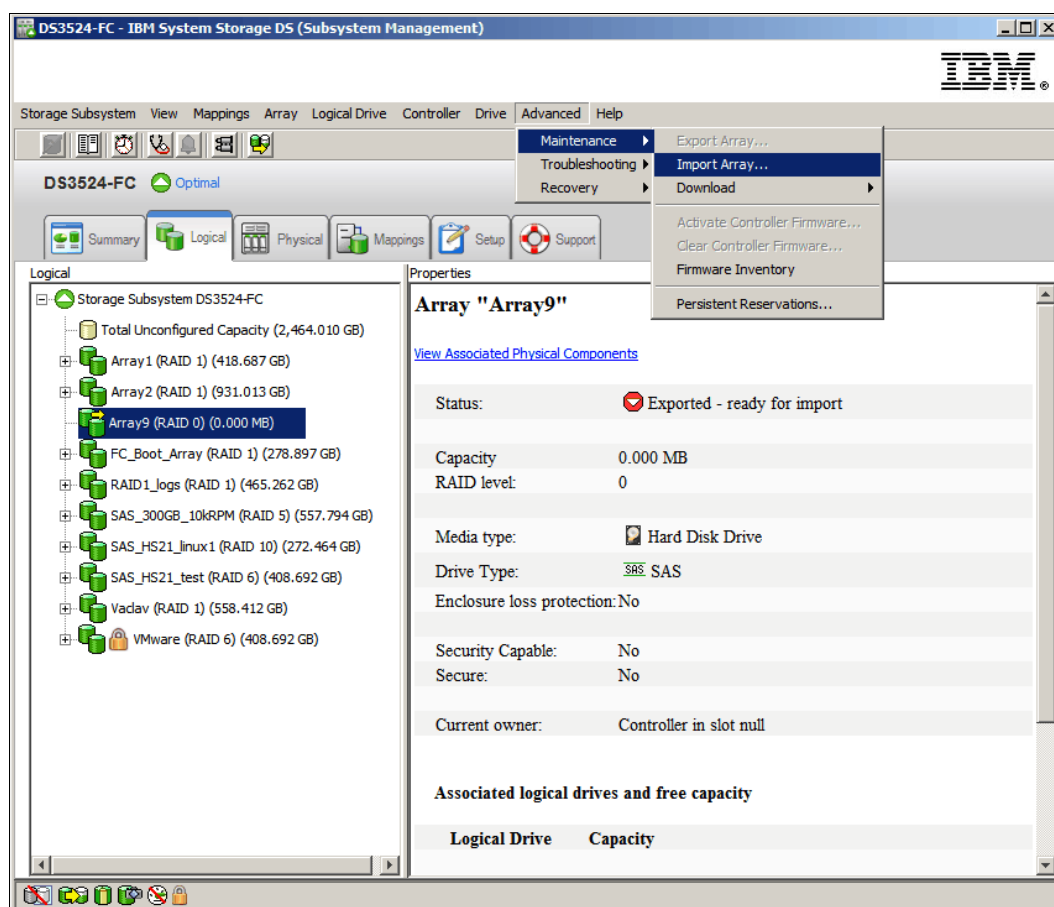

Figure 14-108 Import Array
1. Open the Storage Manager logical tab and select the array to be imported. The status of the array should be Exported - ready for import. Click **Advanced** → **Maintenance** → **Import Array** as shown in Figure 14-108.